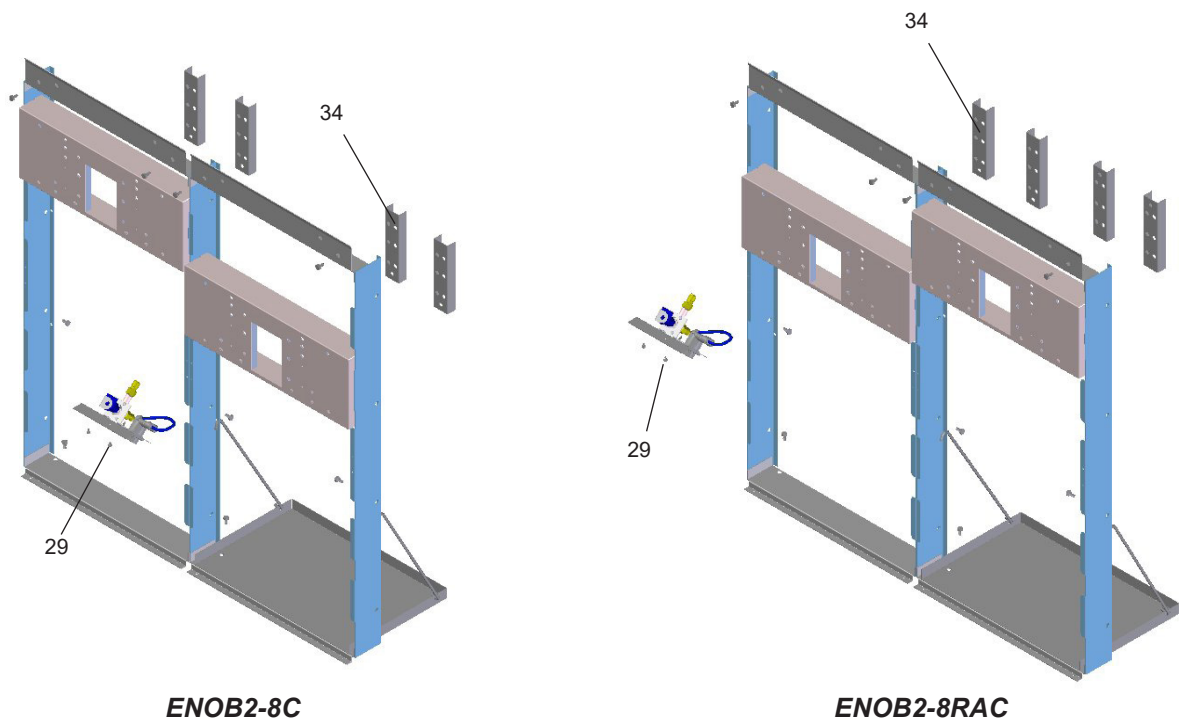

Figure 7 - Solenoid Assembly
2. **Attach solenoid valve assembly to the underside of cross member of mounting frame on electronic sensor unit.** (See Fig. 7).